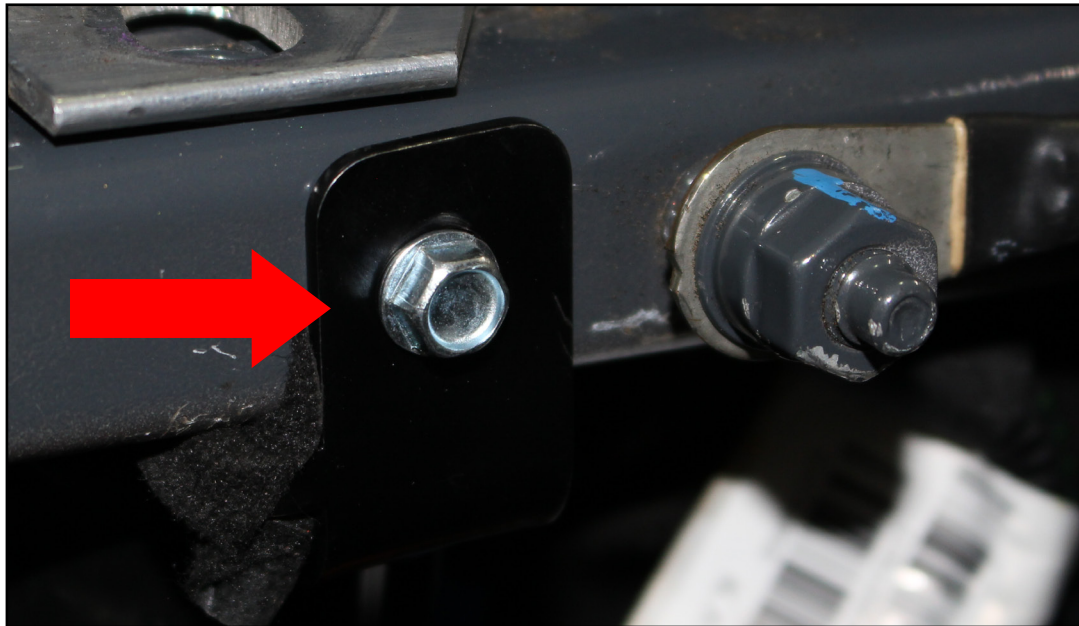

fig. 9a
9. Mount the assembly into the created location as shown (fig 9a) with C141790503200 (BOLT-HEX taptite M6 X 1.0 X 16.0).